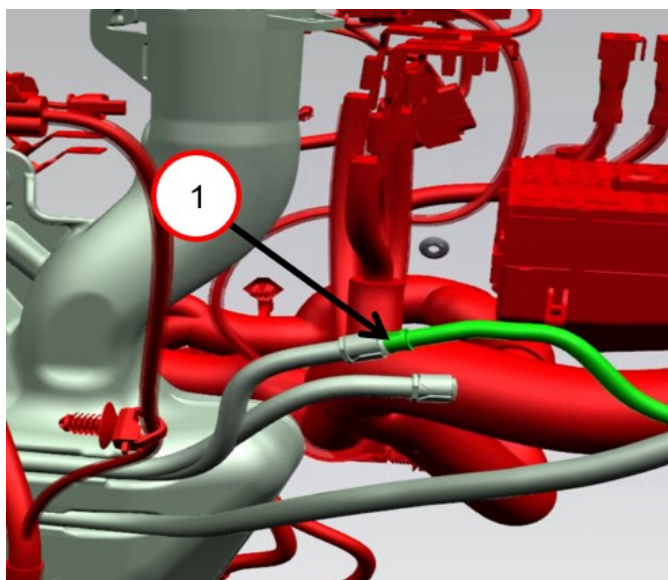

Fig. 10
8. Disconnect the washer hose from the windshield washer reservoir Fig. 10.
16. Connect the other end of the new hose to the windshield washer reservoir Fig. 10.